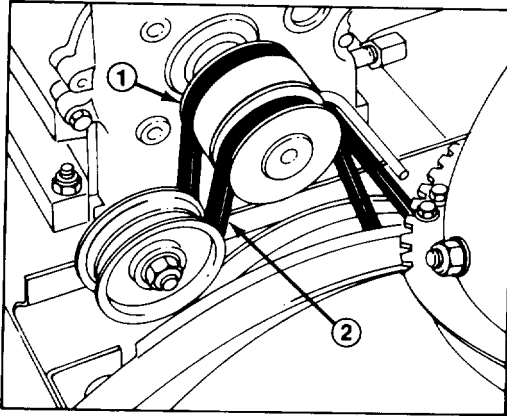
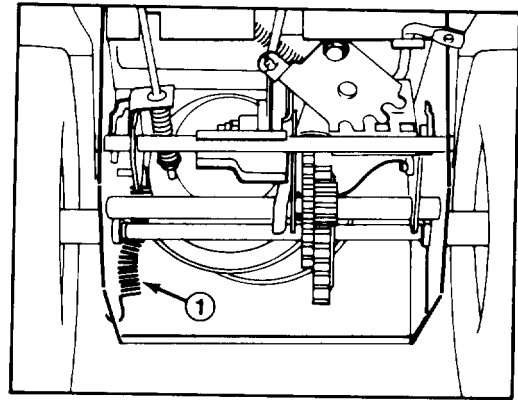

Figure 24
Figure 25
When auger/impeller drive belt (Fig. 24) becomes worn, stretched, oil-soaked, or otherwise defective, belt replacement is required.
4. Install new belt around large auger/impeller pulley (Fig. 24). Next, loop belt over engine pulley, making sure that belt is on inside of idler pulley and wire belt guide (Fig. 24).
5. Set unit upright and remove traction drive belt from engine pulley and large traction pulley (Fig. 24).
6. Install new belt around large traction pulley (Fig. 24). Next, loop belt over engine pulley, making sure that belt is on inside of traction idler pulley and wire belt guide (Fig. 24). Tip snowthrower onto auger housing, block it and hook spring onto side plate (Fig. 25). Replace rear shield and set unit upright.
7. Replace auger/impeller drive belt: refer to Replacing Auger/Impeller Drive Belt, item 4-5.
4. Tip snowthrower onto auger housing and block it so it cannot fall. Remove rear shield and disconnect spring from side plate (Fig. 25).